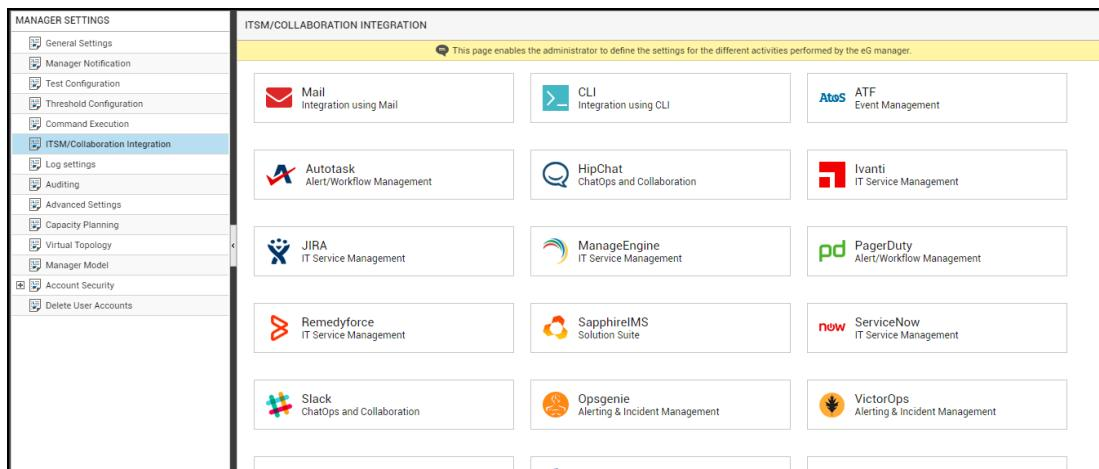
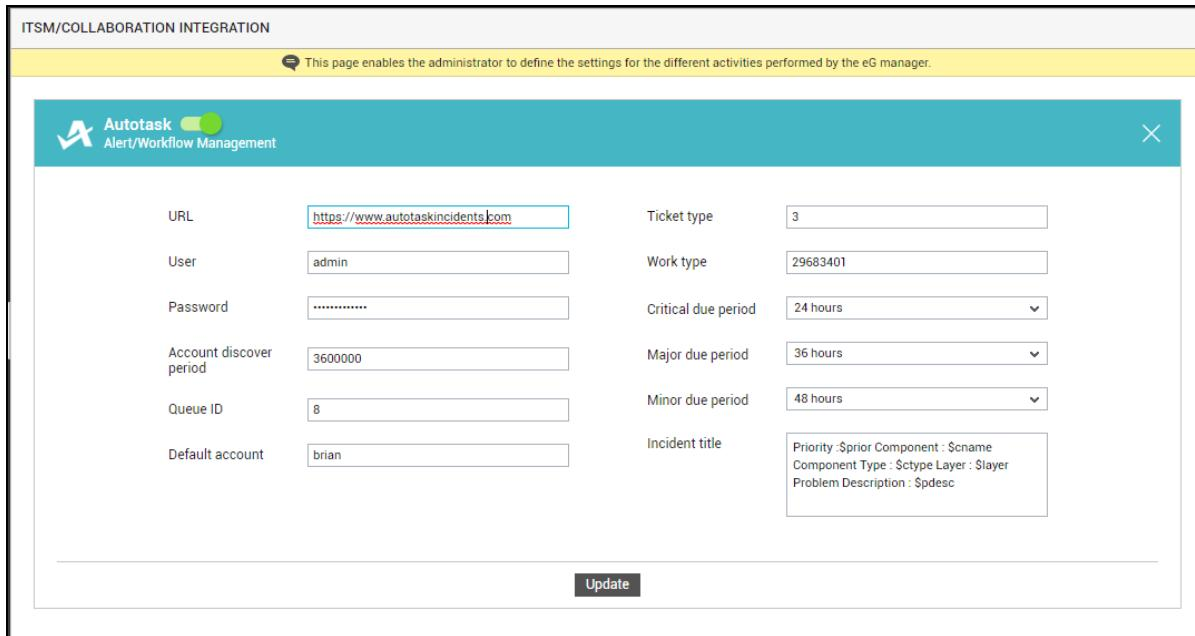

Figure 5.5: Viewing the ITSM/Collaboration tool options
Figure 5.6: Configuring integration with Autotask
3. Figure 5.5 will then appear. From the **MANAGER SETTINGS** tree in the left panel of Figure 5.5, select the **ITSM/Collaboration Integration** node. The third-party ITSM/Collaboration tools that eG Enterprise can integrate with will be listed in the right panel.
4. Now, click on the **Autotask** option in the right panel (see Figure 5.5). An **Autotask** section will now appear in the right panel (see Figure 5.6).
5. To enable integration with Autotask, first slide the **Autotask** slider in Figure 5.6 to the right.
17. Finally, click the **Update** button in Figure 5.6.